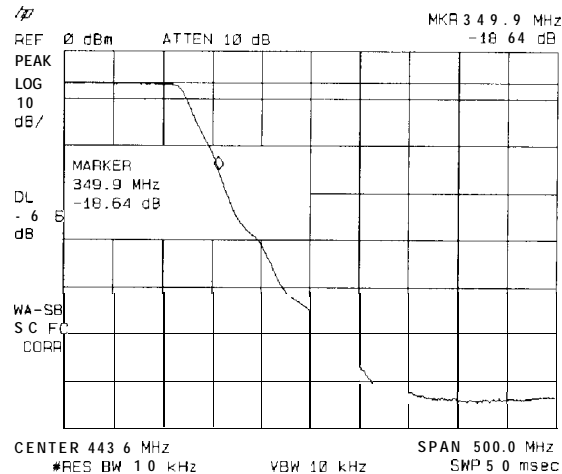

Figure 4-10. Measure the Rejection Range with Delta Markers
9. To measure the rejection of the filter at a given frequency, press **MKR**, and enter the frequency. For example, enter 350 MHz. The marker readout displays the rejection of the filter at 350 MHz (see Figure 4-10).